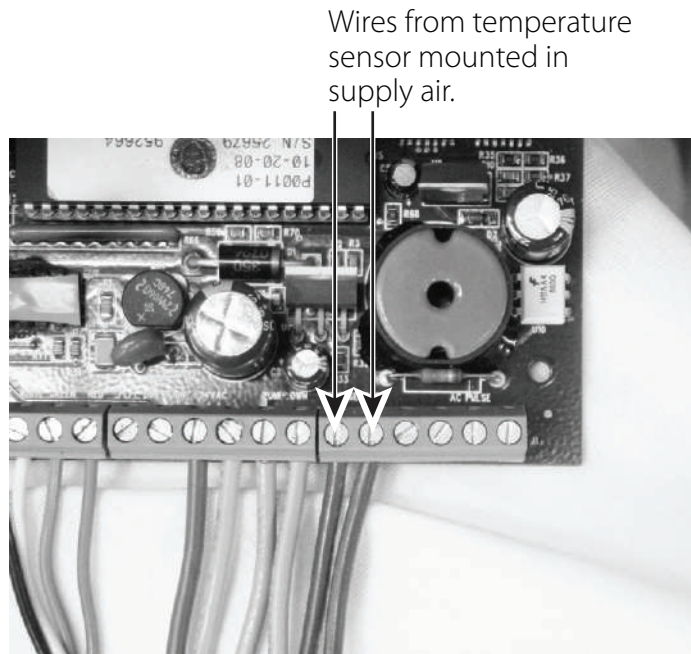

Figure 6 - Temperature Sensor Wires
2. The Classic models have built-in mounting flanges. See Figure 6.
3. Refer to Figure 6. Attach the bottom support bracket to the wall using appropriate 3/8" diameter hardware.